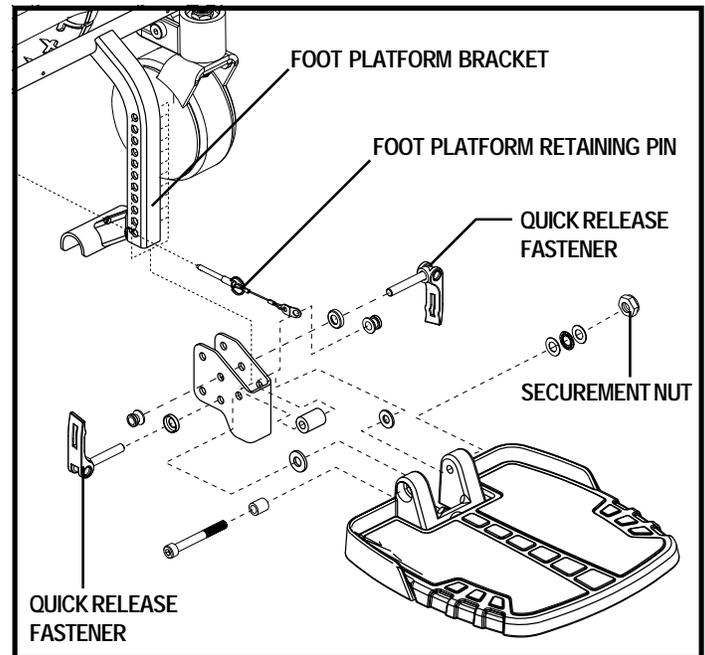
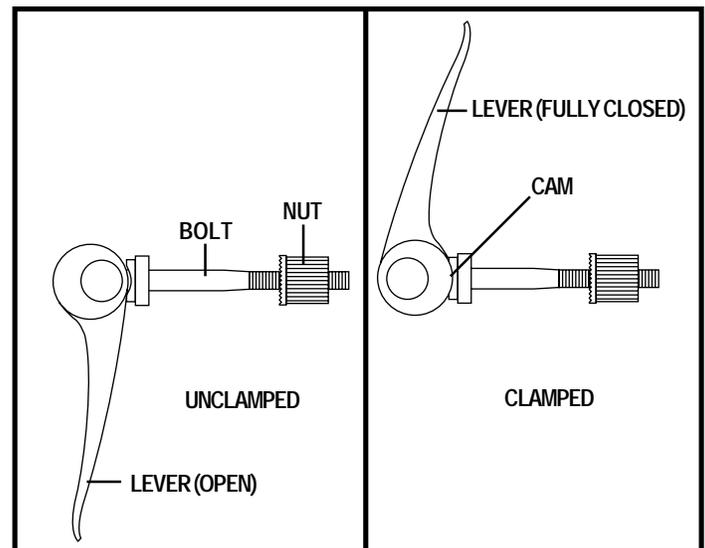

Figure 17. Foot Platform Adjustment
Figure 18. Quick Release Fastener Operation
1. Remove the quick release fasteners from the foot platform bracket. See figure 17.
Quick Release Fasteners: The foot platform is attached to the power base with two quick release fasteners. See figure 17. Each quick release fastener consists of a bolt, a lever and a nut. See figure 18. The lever has a cam on the end that allows it to clamp into place. The quick release fastener has two states: clamped and unclamped. When the lever is open, the quick release fastener is unclamped. When the lever is closed, the quick release fastener is clamped.